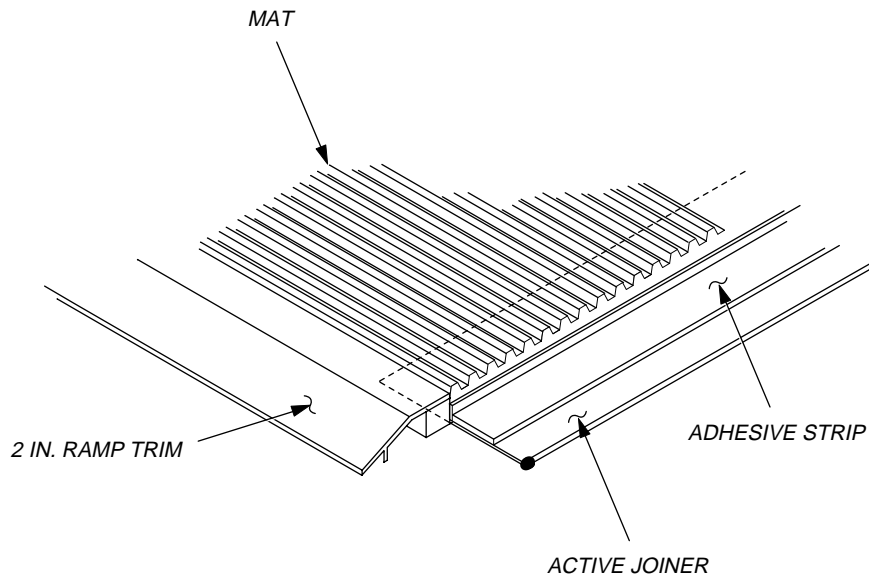

Figure 4-22 Safety Mat Assembly
After the lock lips have been removed on adjoining mat ends, do a trial run. Location of safety mat must be in front of positioner with back perimeter trim even with fence ends (see Figure 4-22).
1. Level robot/positioner base by adjusting leveling bolts (see Figure 4-22).